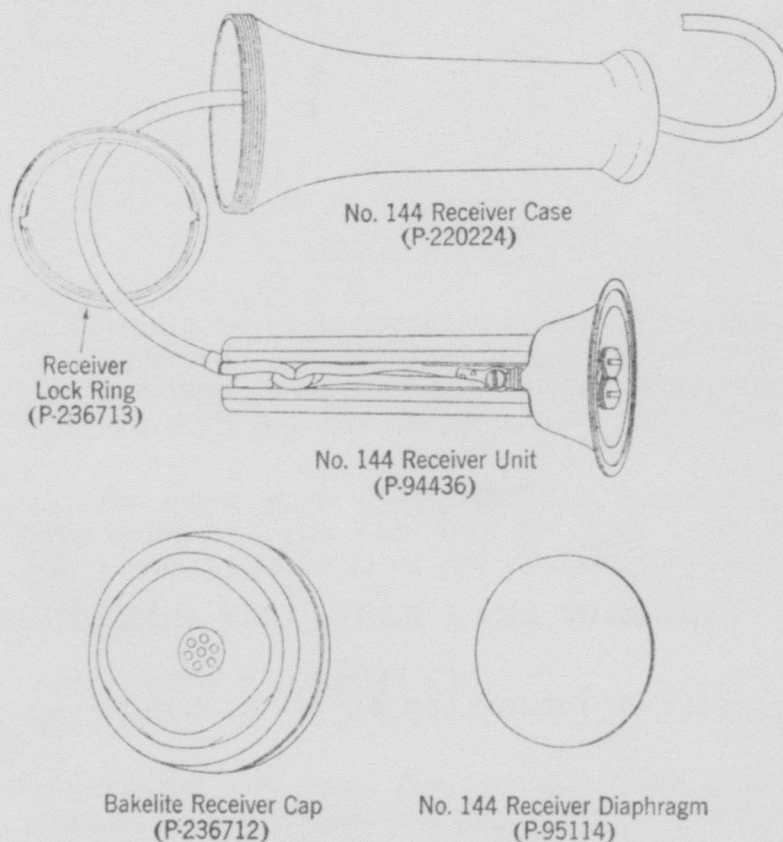

Fig. 1—Parts and Piece Part Numbers.
2.01 Fig. 1 shows the parts of the receiver and their piece part numbers. The cap and the lock ring are the only parts that differ from those regularly used in No. 144 receivers.